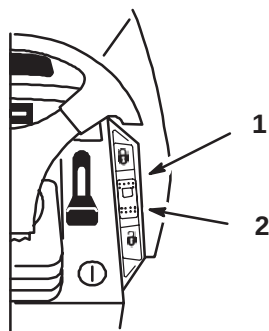

Figure 18
A three position switch, located on the dash (Fig. 18), with the functions of: Lock-Set (spring loaded), On and Unlock-Off controls the engagement. Cruise control maintains the traction control position without foot pressure. Cruise control is intended for operation in the forward direction only. Do not use cruise control in reverse.
1. Begin driving tractor: Refer to Driving Forward or Backward, page 19. While holding your foot steady on the traction control, push the cruise control switch (Fig. 18) to the **lock-set** position.
1. While holding your foot steady on the traction control, move the cruise control switch (Fig. 18) to the **unlock-off** position.